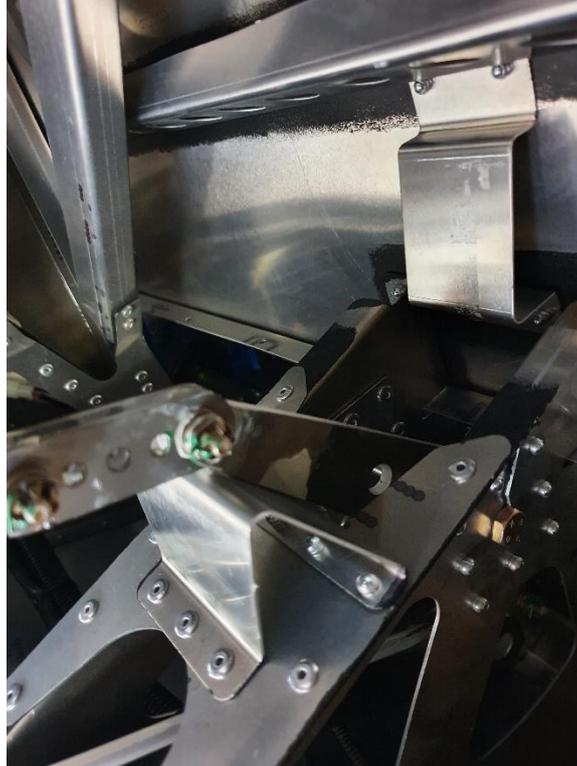

Figure 44: Longitudinal line bell crank on the full nose up position, against stop
- Pull the control stick totally backward (full nose up). The position must be limited only by the line stop which is the bell crack support, shown in *Figure 44*. The position of the stick is directly fixed because the length of the push-pull rod is not to be modified in respect of design values (*Table 36*);